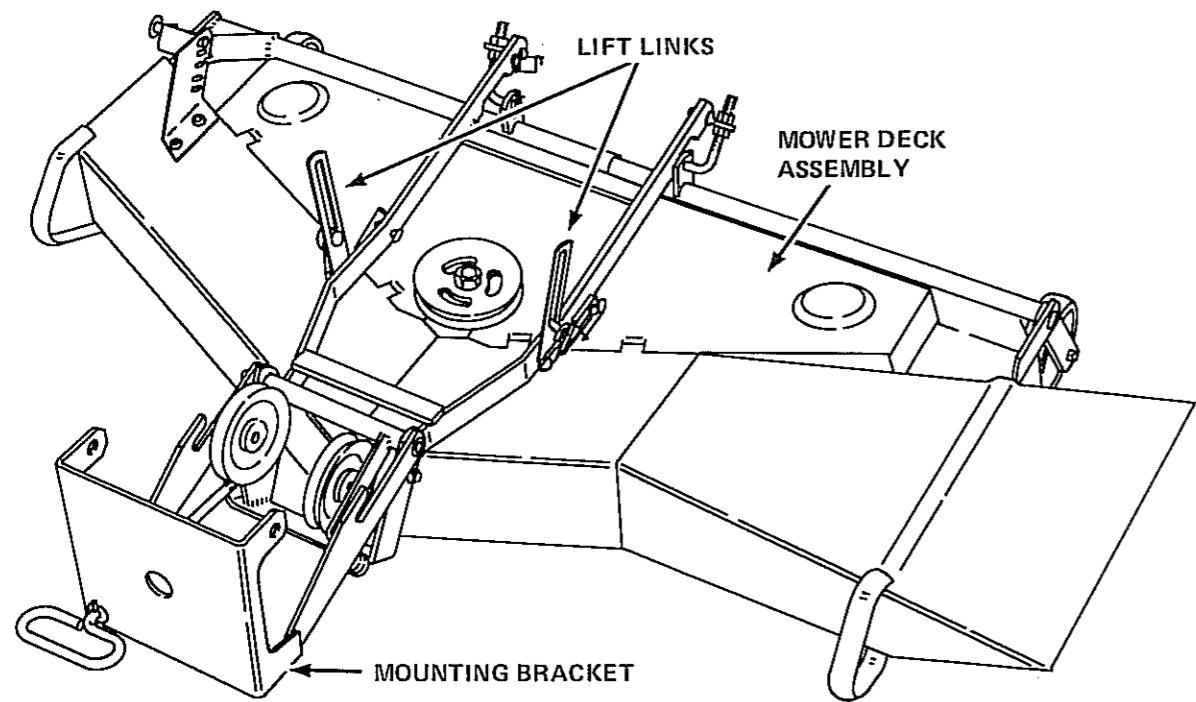

FIGURE 14 MODEL L44 ROTARY MOWER - ASSEMBLED
3. Use cotter pins to fasten the lift links to the mounting bracket. See Figure 14.
NOTE: Do not assemble the mounting bracket to the lawn mower deck as shown in Figure 14. It is easier to first install the mounting bracket on the tractor.